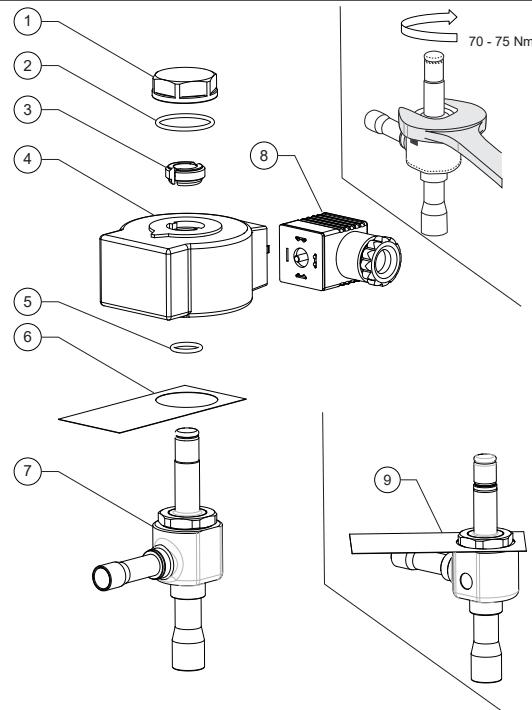

Fig. 5.
**en** The product is composed by a coil, a body and a connector/cable (if present) Refer to Fig. 5